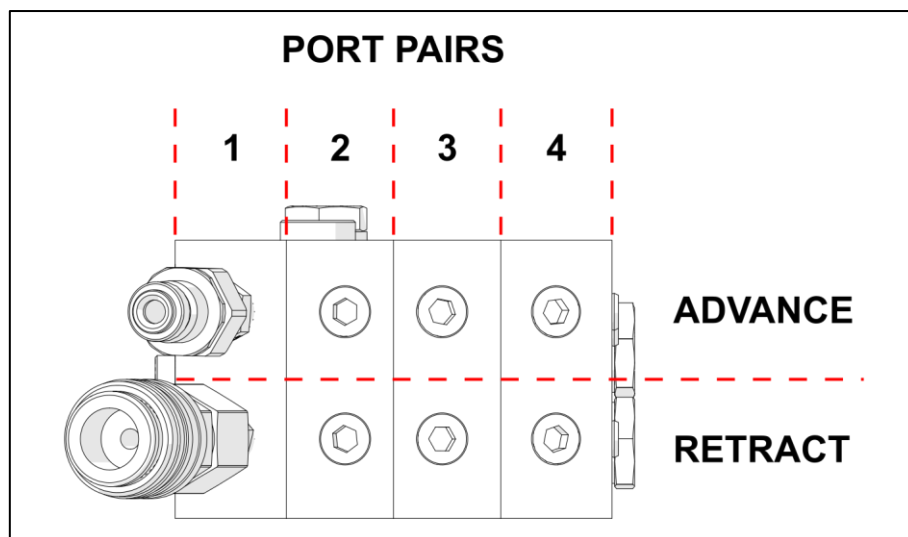

Figure 5.5: Split Block Port Pairs
- Remove the relevant blanking plugs from the outlet split block (13) and fit the required number of extra coupler pairs. **ALWAYS** fit the male coupler to the top port and the female coupler to the bottom port to ensure correct torque wrench connection. (See figure 5.5)